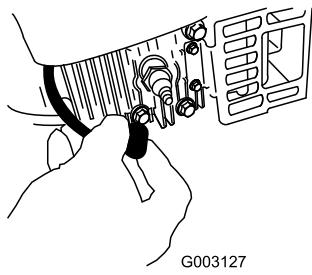

Figure 39
- Disconnect the spark plug wire from the spark plug (Figure 39) before performing any maintenance procedure.